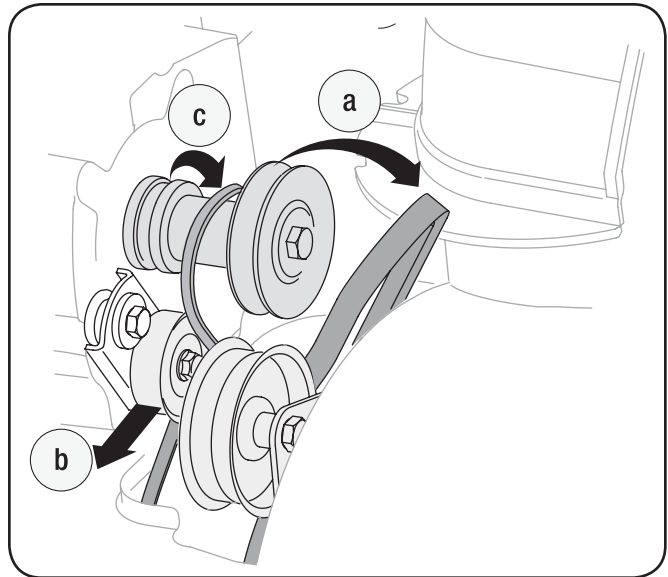

Figure 8-6
- Remove the belt as follows. See Fig. 8-6.: